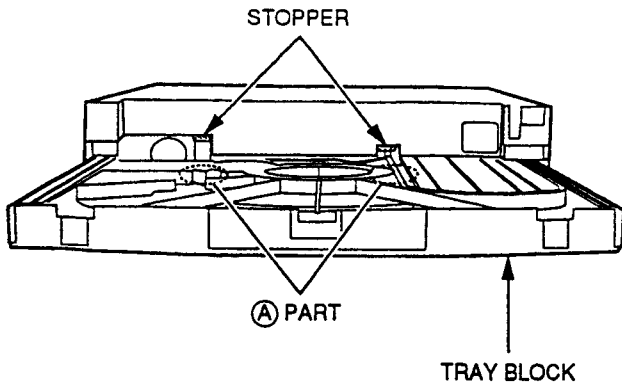

Fig. 3-10
- 2) In order to disengage the two stoppers, carefully press the (A) part of the TRAY BLOCK downwards while pulling the TRAY BLOCK out as shown in Fig. 3-10.